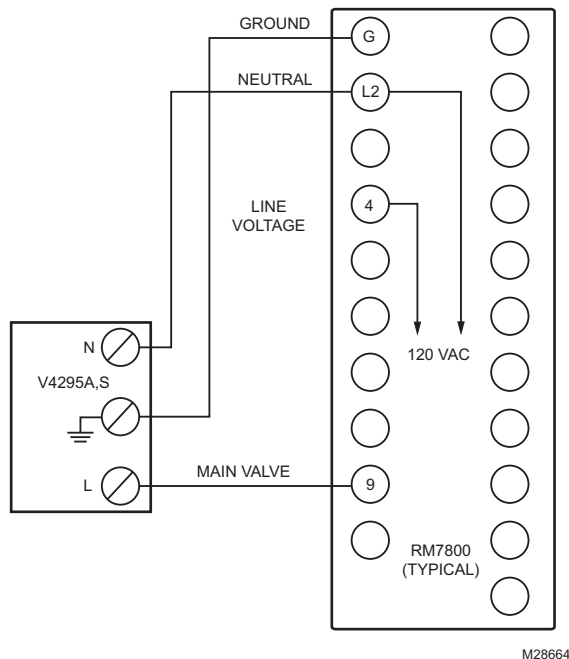
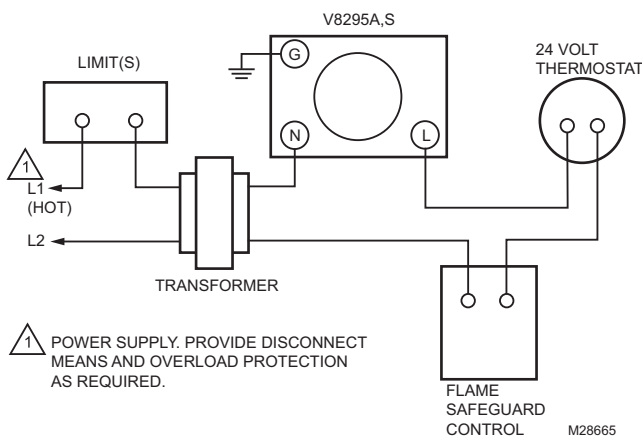

Fig. 6. Wiring, V4295A,S.
Fig. 7. Wiring, V8295A,S.
7. Make electrical connections as illustrated in the wiring diagrams; see Fig. 6.
6. Refer to Fig. 6 for typical V4295A,S field wiring with RM7800 (typical) Primary Safety Control. Refer to Fig. 7 for typical V8295A,S field wiring with Primary Safety Control. Follow the burner manufacturer's wiring diagram, when provided. Refer to burner controller (primary safety control) wiring diagram for specific wiring terminal designations.